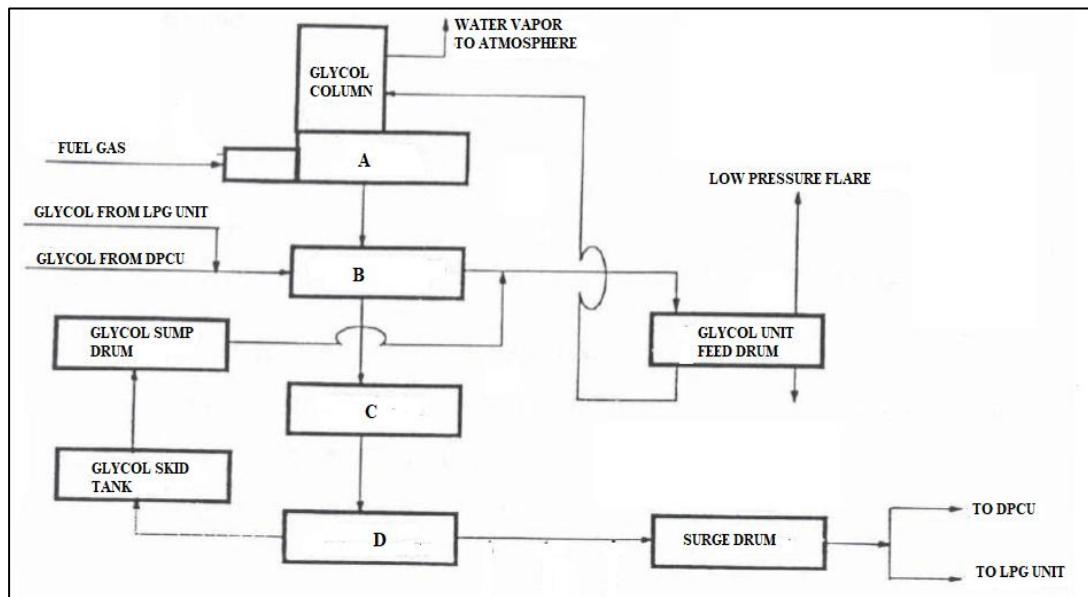

Figure 3 (c) (ii): Block flow diagram of Glycol Regeneration Unit (GRU) /
- ii. Complete the block flow diagram of GRU in Figure 3 (c) (ii) for A, B, C and D process units.